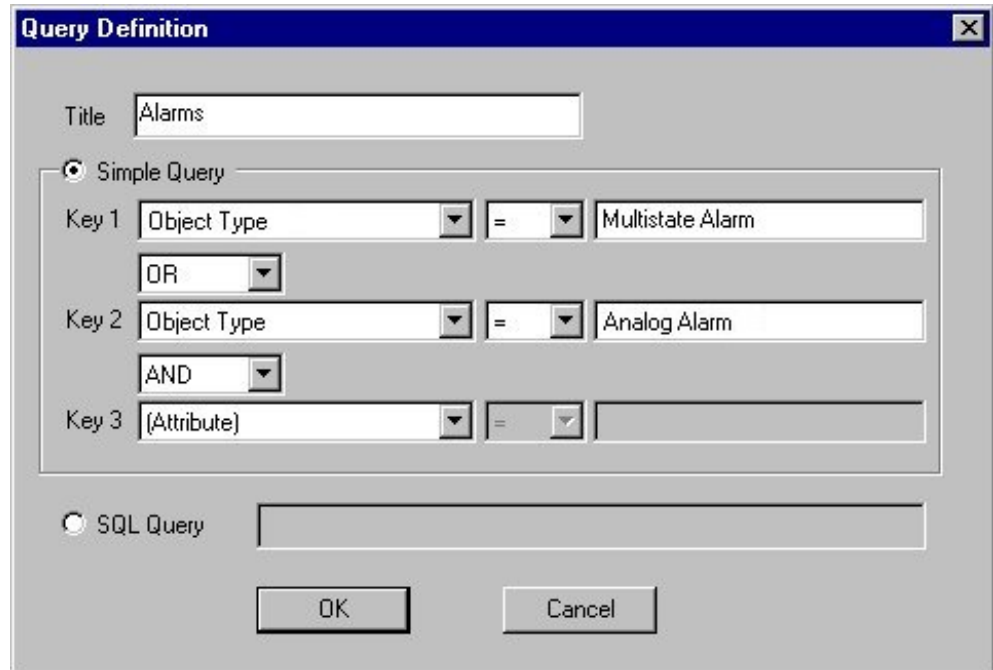

Figure 10-2: Simple Query to Return Defined Alarms
3. Define the query using either the simple query or an SQL query. If adding a simple query, the Key 1 field is required, and Keys 2 and 3 are optional. If entering an SQL query, use the Microsoft Access SQL syntax to define your query. Figure 10-2 shows a simple query used to return a list of defined alarms.
2. Select Edit Query on the Format menu. The Query Definition screen for that query appears (Figure 10-2).